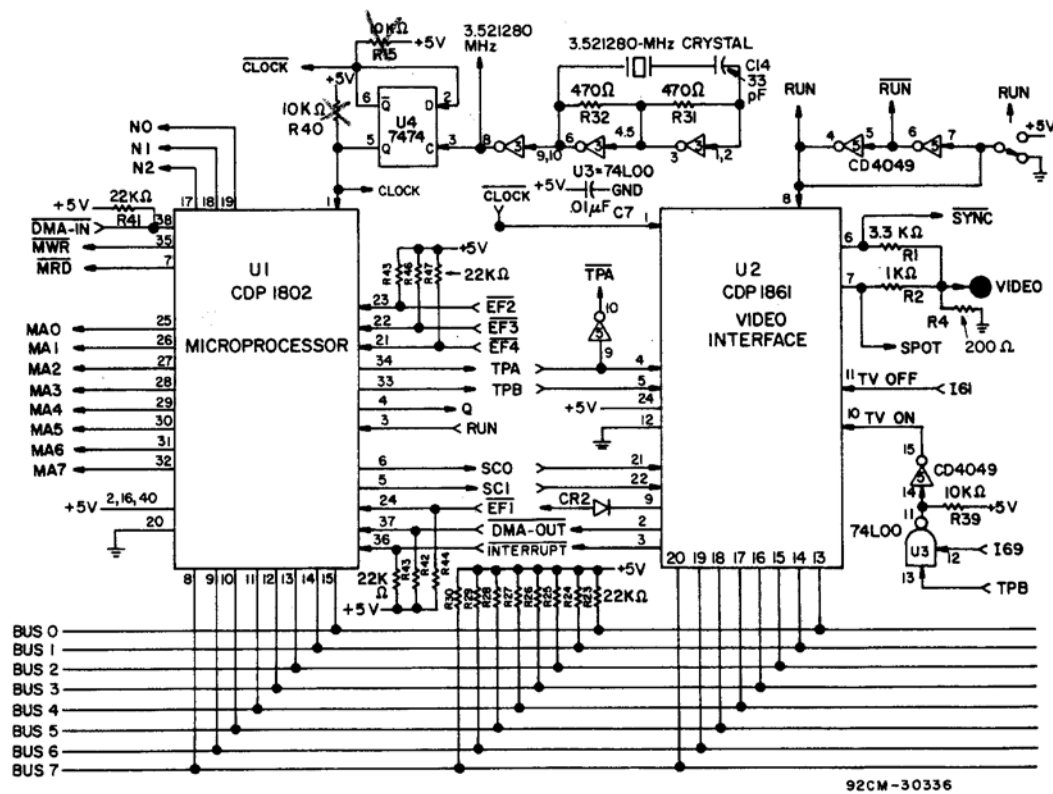

Fig. E-1 - Microprocessor and Display Interface Circuits
- Fig. E-1 Microprocessor and Display Interface